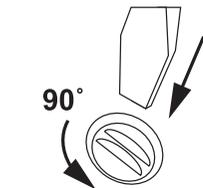

Figure 8
- Remove the lid from the water purifier by turning the three latches anticlockwise by 90° (Fig. 8).